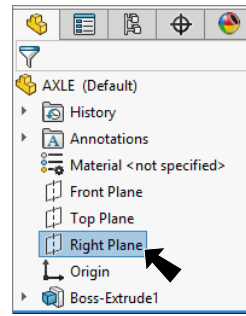

Fig. 5
Step 1. Click **Right Plane** in the Feature Manager to select Plane, **Fig. 5**.